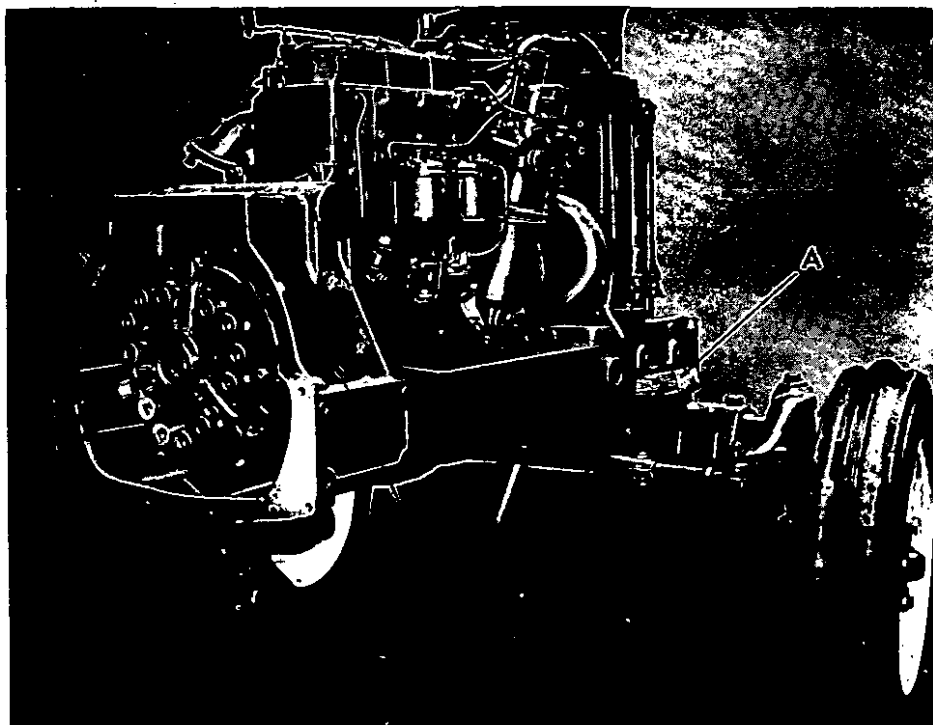

Figure 6. 880 TRACTOR "SPLIT" FOR CLUTCH REMOVAL
14. Drive a wooden wedge between each side of main frame and front axle to hold front end of tractor vertical (A Fig. 6). Remove bolts attaching clutch cover to engine and main frame and, after ensuring that stand and jack are supporting weight of frame, remove remaining front-to-rear main frame bolts.